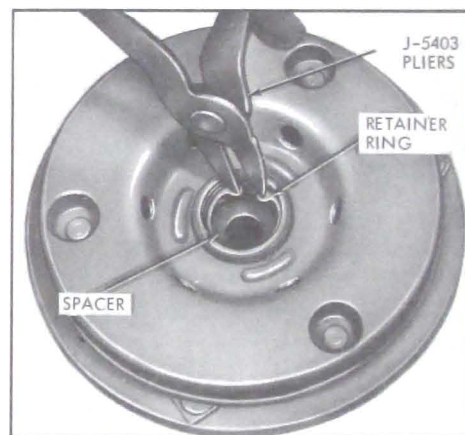

Figure 11-43—Removing Drive Plate Retainer Ring
4. Remove drive plate assembly retainer ring, using J-5403, No. 21 Truarc pliers. See Figure 11-43. Remove spacer from inside hub of drive plate.